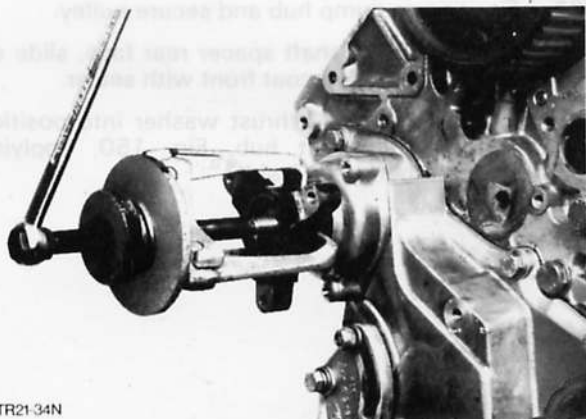

Fig. 147. Remove vacuum pump hub
17. Remove vacuum pump hub (1 nut) using standard remover, Fig. 147.